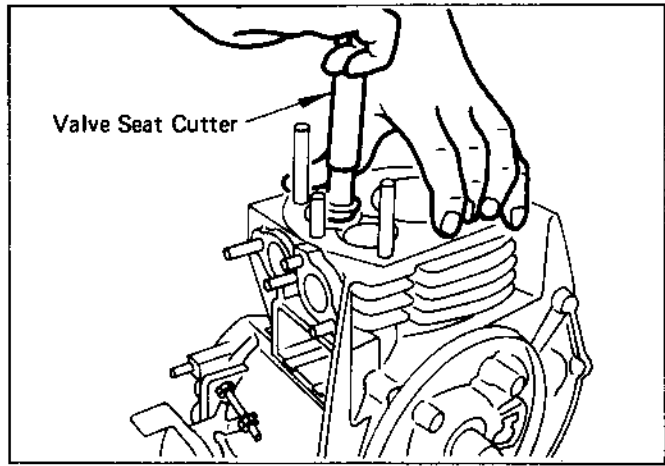

Fig. 6-3-3
- * Correct the valve seat by using 45° seat cutter tool as illustrated in Fig. 6-3-3. The finished seat width should be 1.2 ~ 1.5 mm.